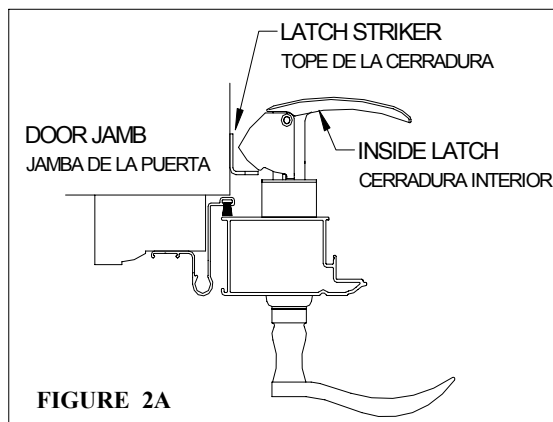

FIGURE 2A
A: Hold the door closed from the inside and slide the striker behind the latch. Mark the mounting slot locations through the slots of the striker onto the door jamb and pre-drill two (2) 3/32" pilot holes at the marked locations. **FIGURE 2A**